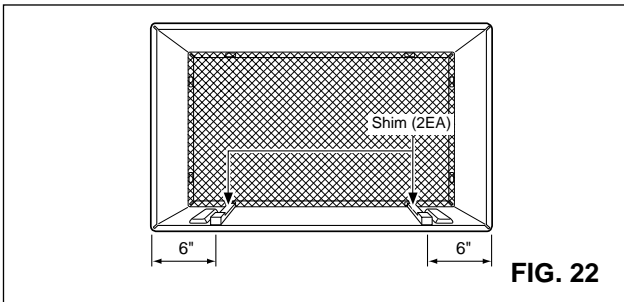

FIG. 22
7. Remove the backing from the 13" shim strips and attach them as shown below in Fig. 22. The higher portion of shim is to be placed in front of the rib on the base of wall sleeve.